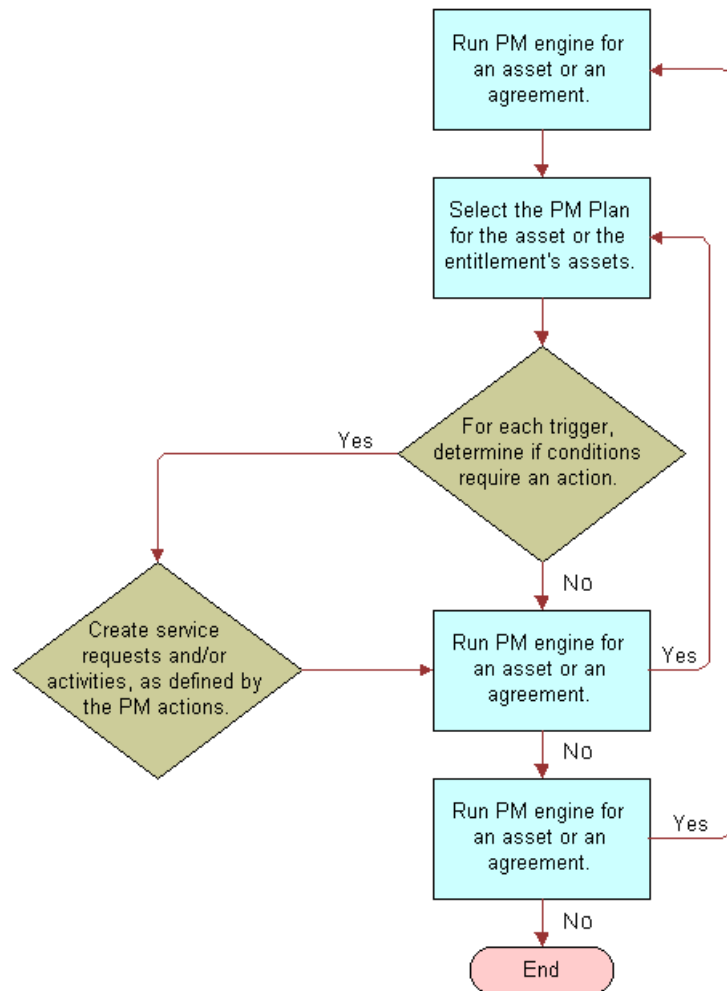

Figure 36. Logic of the Preventive Maintenance Engine
The Preventive Maintenance Engine can automatically generate preventive maintenance (PM) service requests and actions (or activities), triggered by elapsed time, asset usage, measurement thresholds, or events (see Figure 36 on page 470):
When a PM activity is required, you use Field Service to create service requests and detailed activities. Figure 36 on page 470 shows the process of the Preventive Maintenance Engine, which is: